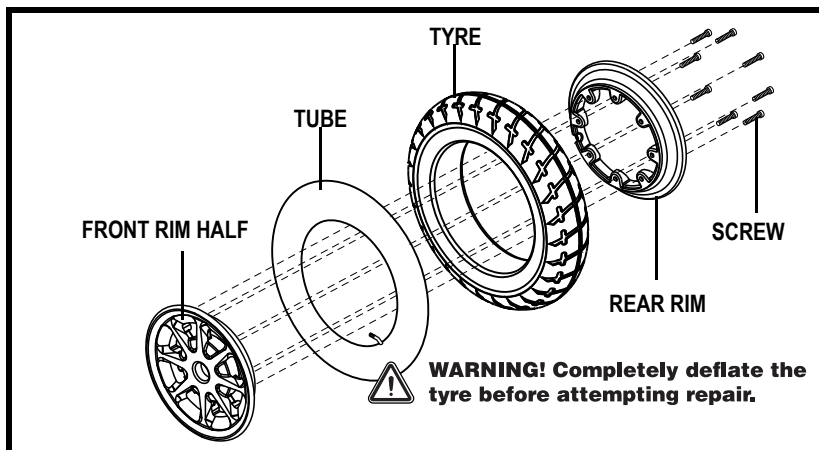

Figure 27. Drive Wheel Disassembled
6. Remove the screws from the rim assembly and separate the front and rear rim. See figure 27.